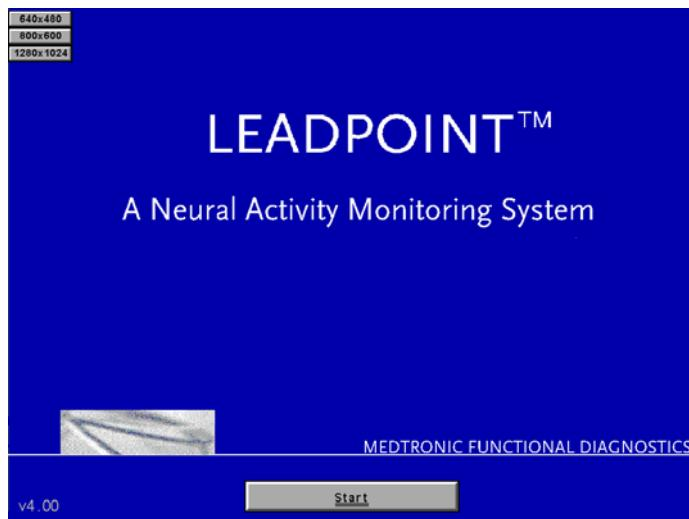

Figure 59 The Start Page of Leadpoint™
- Double-click the Leadpoint™ icon on your Windows desktop. The program will perform a swift self test, before displaying the Start Page, see Figure 59 below:
- Click **Start** on the Start Page, and the **Patient Data Window** appears see Figure 59 above.